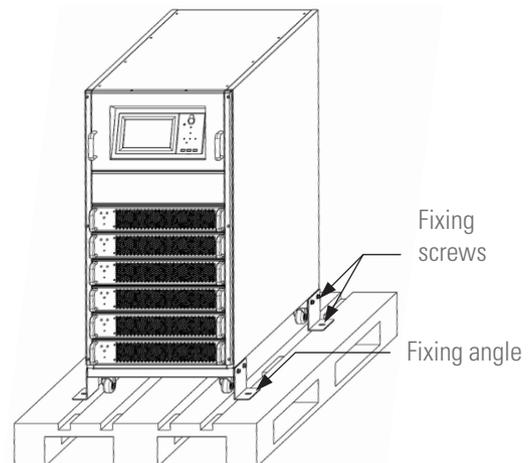

Fig. 26. Device unpacked on a pallet by way of example.
- Remove the screws and/or fixing angles indicated in Fig.26.